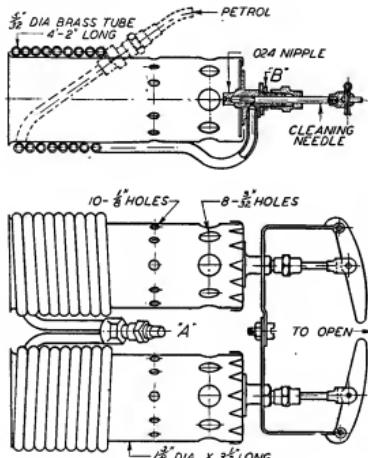

Fig. 12. Original twin blowlamp.
The lamps, during 1939, gave very little trouble, as they are based on the most successful one developed in 1938 for *Tich I*. Fig. 12 shows the twin lamps as first made. Each one consists of a flame tube 1 $\frac{1}{2}$ dia., 3 $\frac{1}{2}$ in. long of tin plate on which is wound 50 in. of 5/32 dia. brass tube, one end of which is brazed to the nipple unit and the other to a dual fitting, A, carrying a union for the main petrol pipe.
4. Provide a means of coupling the two lamps and supporting them in the boat, e.g., by a locknut such as shown at B, Fig. 12.